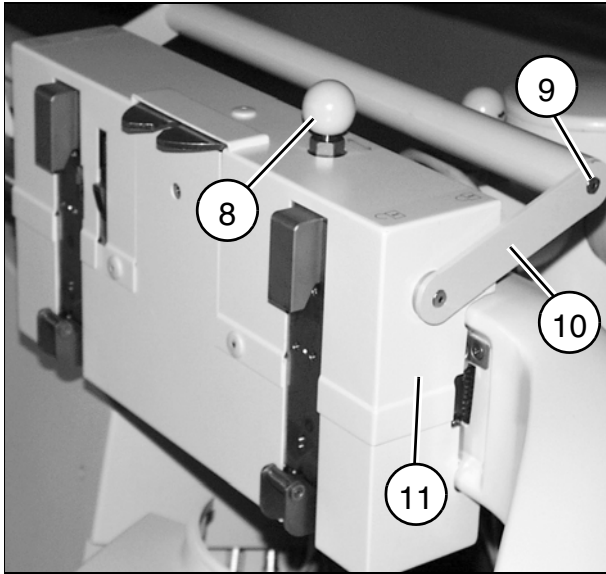

Fig. 30
- Remove the knob (8/Fig. 30); lift up the ball and secure the axis from shifting.
- Remove the countersunk screw (9/Fig. 30).
- Firmly pull the handle apart (10/Fig. 30).
- Remove upper portion of covers (11/Fig. 30).
- Adjustment of the lift switch-off (see page 4-26 (Fig. 30/31)).